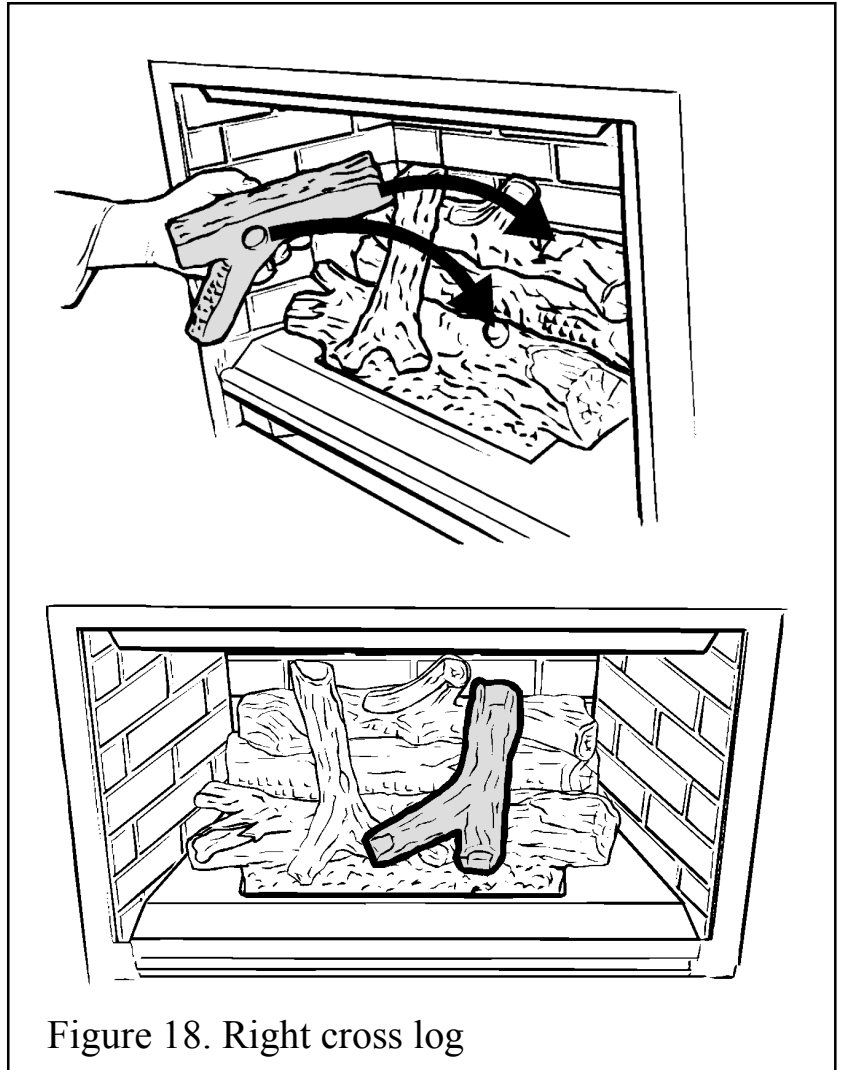

Figure 18. Right cross log
5. Place the right front log (stamped “R” underneath) over the other logs. Locate it over the peg in the front log and into the channel in the rear log (See figure 18).